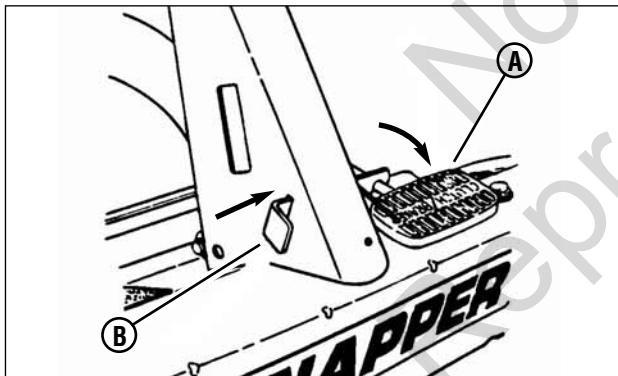

Figure 38: Setting the park brake
3. Depress the clutch/brake pedal (**A**, Figure 38) all the way down. Move and hold the park brake lever (**B**) in the "ON" position and release the clutch/brake pedal to set the park brake.